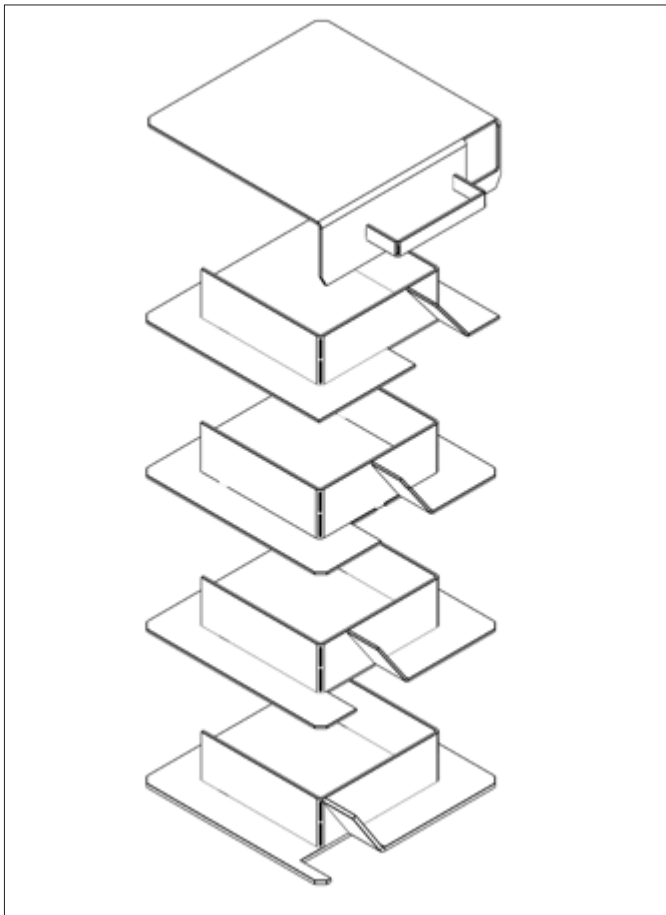

Figure 11-1: 15/21 and 21/26kW baffles
4. Remove the baffles as shown in Figures 11-1 to 11-5.
8. Refit the baffles, ensuring they are correctly located. Refer to Figures 11-1 to 11-5, as appropriate. Pull out the spiral turbulators from the heat exchanger tubes. See Figure 10-4.